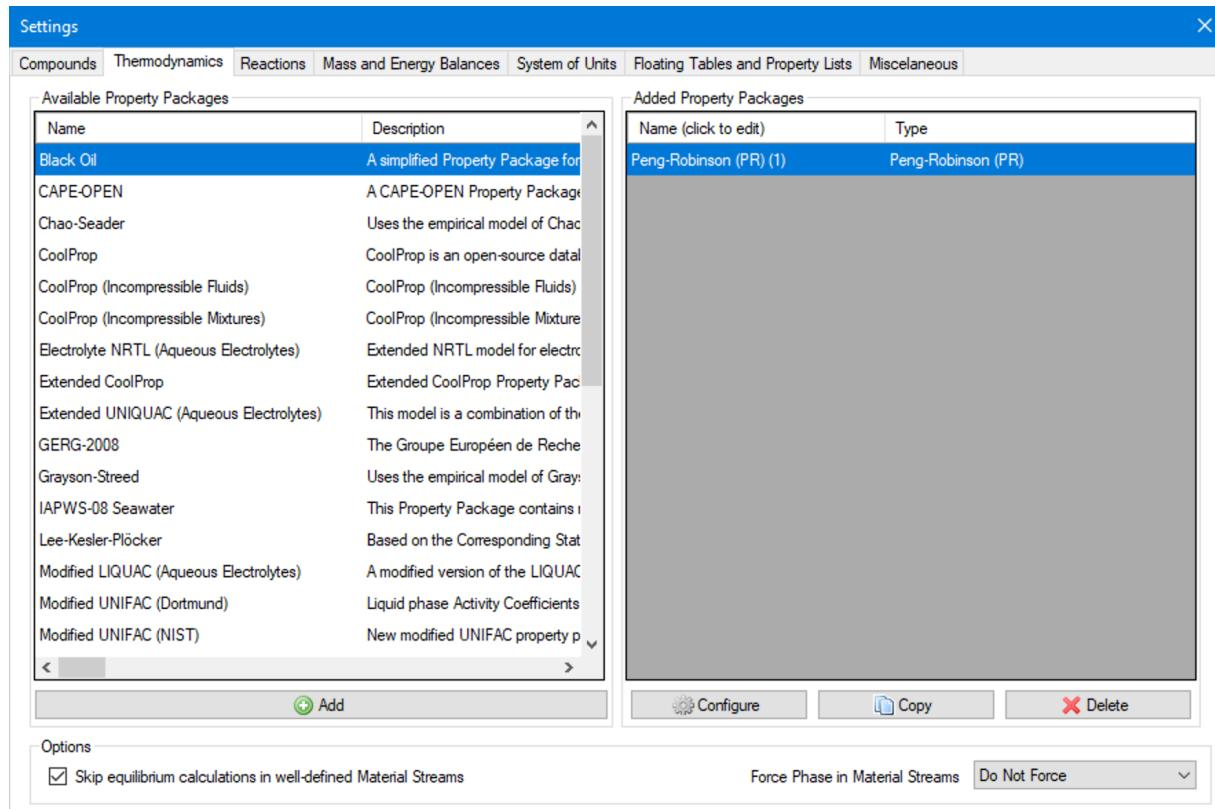

Figure 9: Property Package configuration interface.
2.2.2.2. Property Packages The Property Package consists in a set of methods and models for the calculation of physical and chemical properties of material streams in the simulation. It is composed of a thermodynamic model - an equation of state or a hybrid model - and methods for property calculation, like the surface tension of the liquid phase. The figure 9 shows the interface for configuration of the property package.